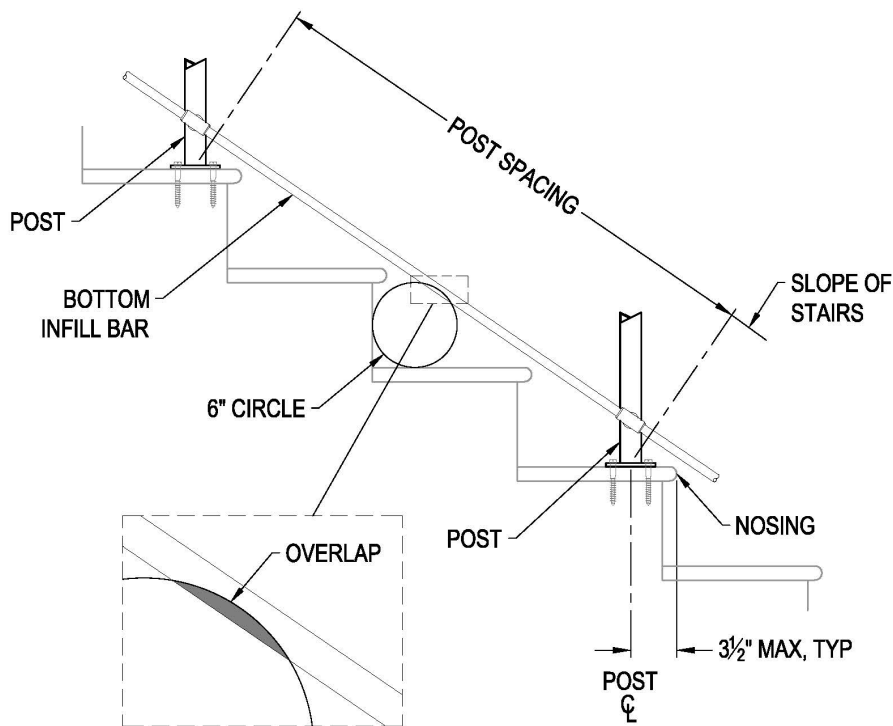

Figure 5.
Posts located on stairs should follow the same guidelines as above in addition to the following (Figure 5):
- Stair posts, when properly located, will result in an overlap of a 6" circle and the bottom infill bar when the 6" circle touches both the riser and tread (Figure 5).